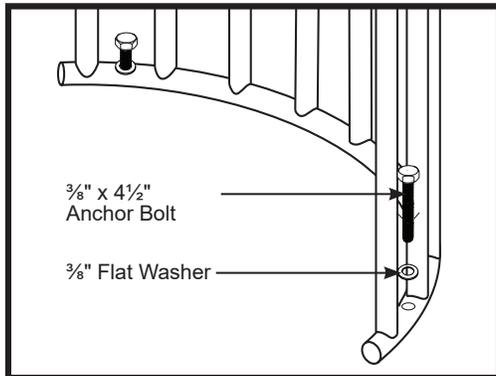

Fig. 9
7. Rotate the yoke back over the anchor holes and anchor it with two $\frac{3}{8}$ " x $4\frac{1}{2}$ " anchor bolt and flat washer (Figure 9).